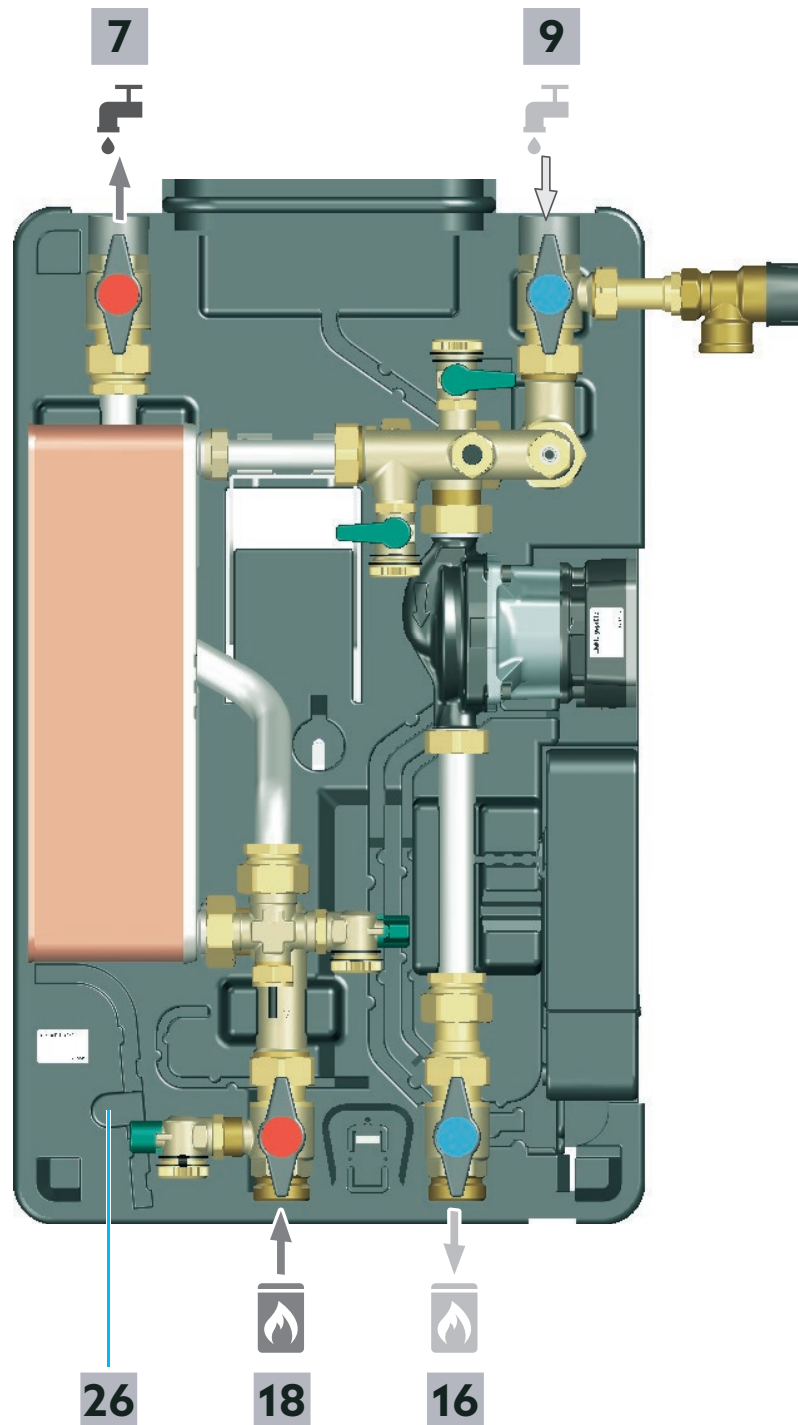

Fig. 16: Functional description
There is a recess in the lower shell for the discharge elbow of the water sampling valve (position **26** in Fig. 16 on page 25).
- If necessary, mount another potable water filter (TF) (Oventrop accessory) as close as possible to the cold water connection of the station.
- Install a backflow preventer (position 4 in Fig. 3 on page 14) in the cold potable water supply (position 9 in Fig. 16 on page 25), to separate the cold potable water from the already heated potable water within the station.